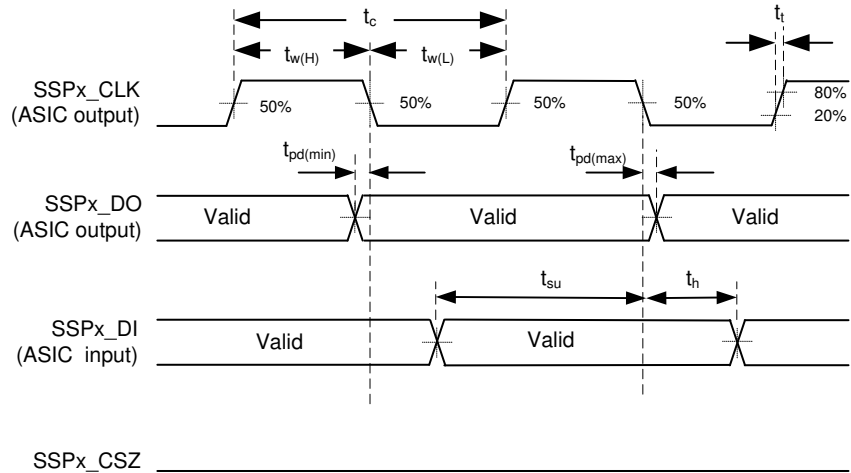
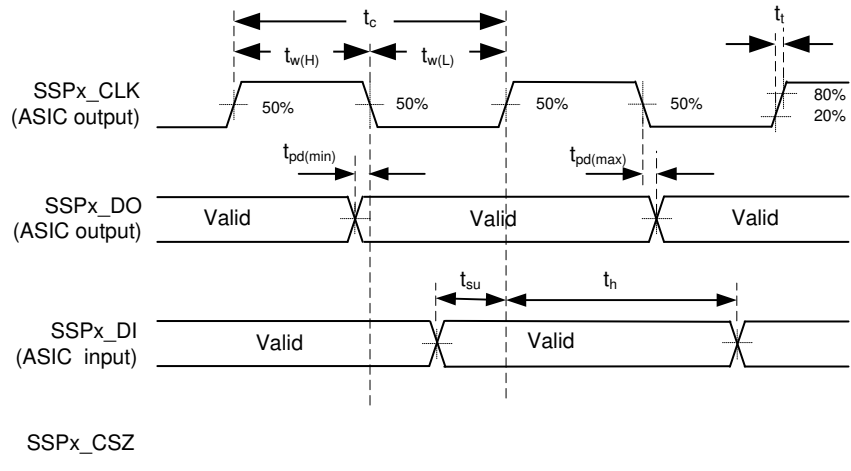

图 5-10. Synchronous Serial Port Interface—Master (Modes 0/3)
图 5-11. Synchronous Serial Port Interface—Slave (Modes 0/3)
- (1) The SSP is configured into four different modes of operation by the controller firmware. These modes are shown in 表 5-2, 図 5-10, and 図 5-11.
- (2) SPI Modes 0 and 3
- (3) SPI Modes 1 and 2